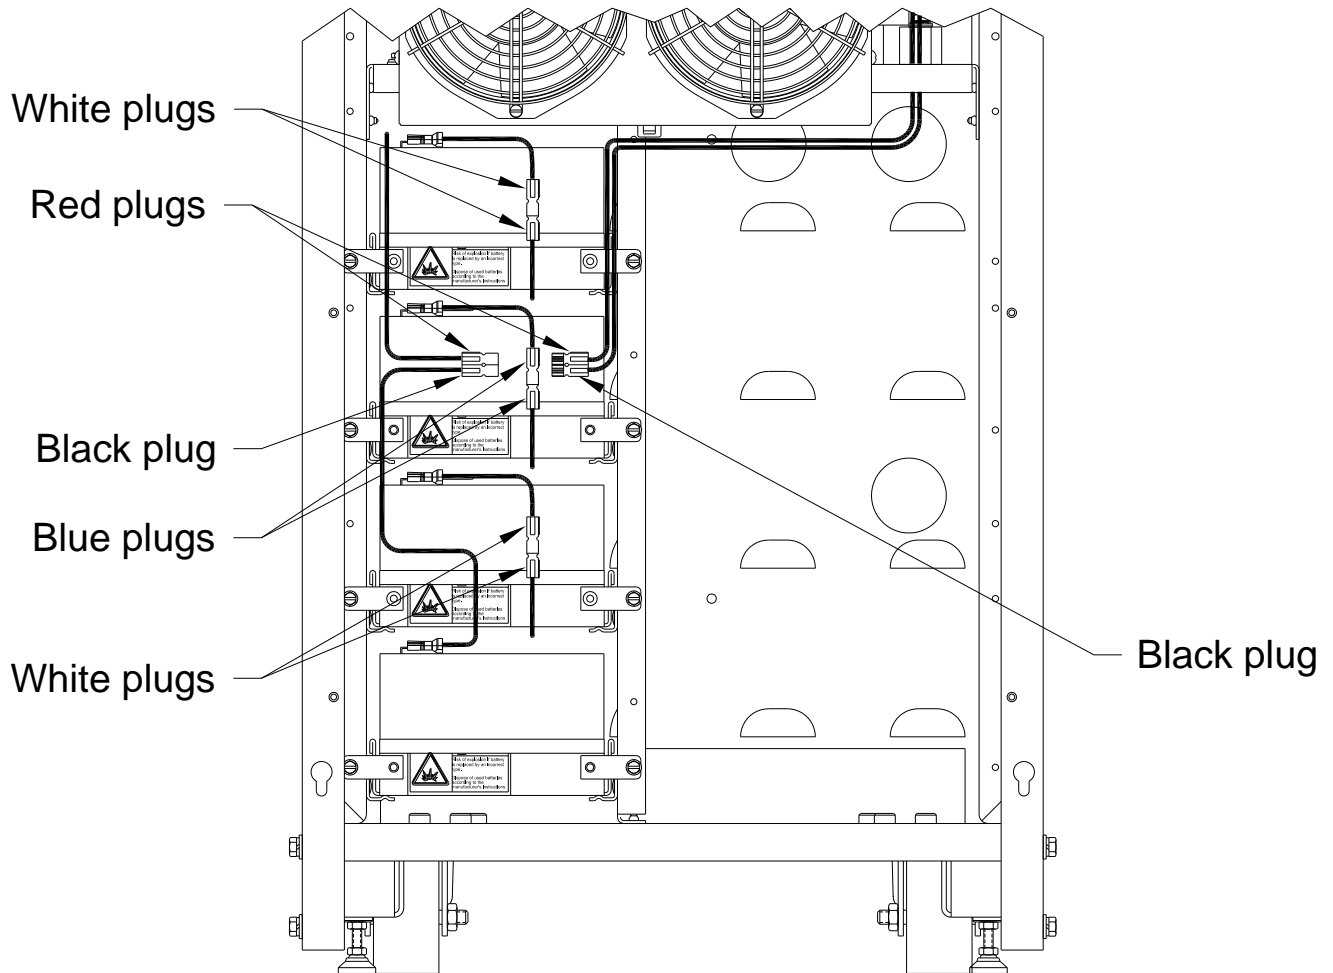

Figure 13 - UPS Internal Battery
9. Connect the internal battery by joining the red and black connectors. Refer to figure 13.